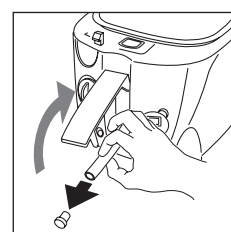

fig. 11
2. Open the panel (as shown in Fig. 11) and take out the oil drain hose.
3. Remove the cap (as shown in Fig. 11) and at the same time hold the hose between two fingers to prevent the liquid from being released until the end of the tube has been placed in a